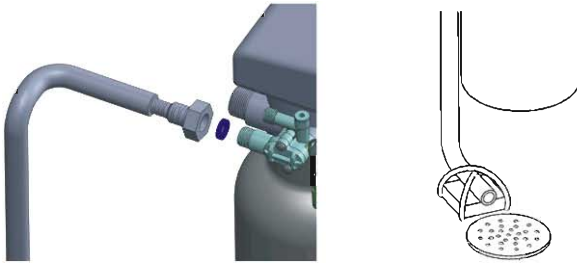

Figure 1-4
- As the Figure 1-4 shows, insert drain line flow control into drain outlet.
- Locate the drain hose well as the Figure 1-4 show.
- Be sure not to connect drain with sewer, and leave a certain space between them, in case wastewater are absorbed into the water treatment equipment, such as showed in the Figure 1-4.